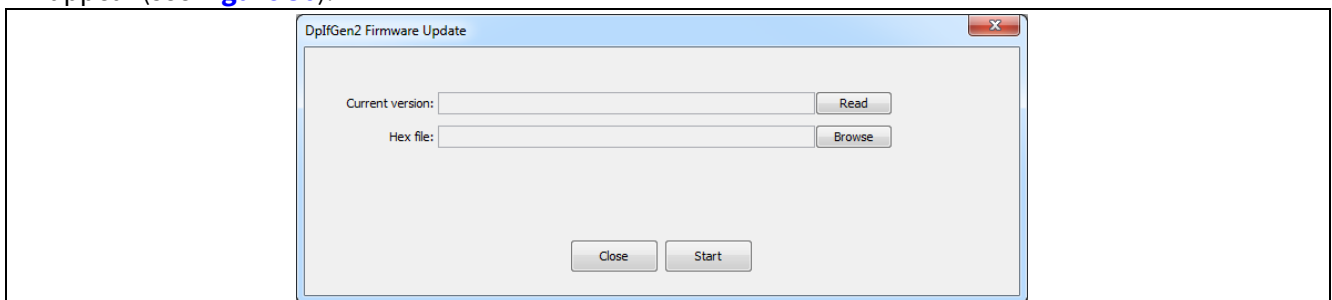

Figure 36 DpIfGen2 Firmware Update
1. From the Tools menu dropdown list select “DpIfGen2 Firmware Update”. The appropriate window will appear (see Figure 36).